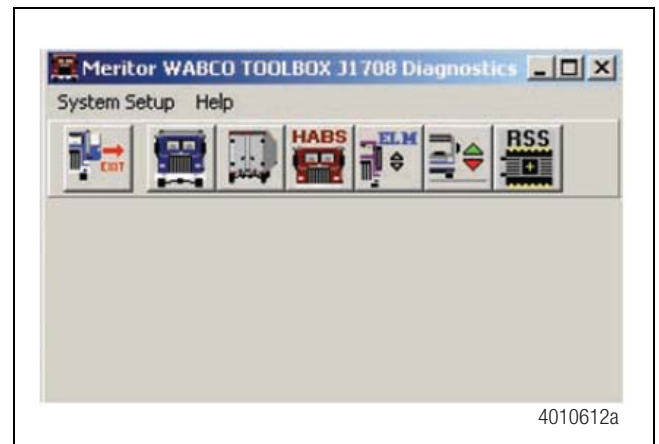

Figure 3.6
To access “Comport Settings” for TOOLBOX™ Software versions prior to TOOLBOX™ Software 11, click on “System Setup” from the main TOOLBOX™ page. Figure 3.6.
- J1708 communications are possible with any TOOLBOX™ Software version and any D or E Version ECU. Figure 3.6.